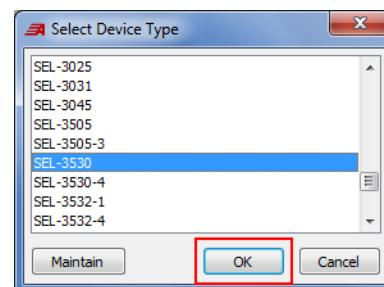

Figure 145 Add SEL-3530 Device Type
Step 13. Right-click the **RTAC Listening** folder, select **Add > Device**, and add the **SEL-3530**, as shown in *Figure 145*.